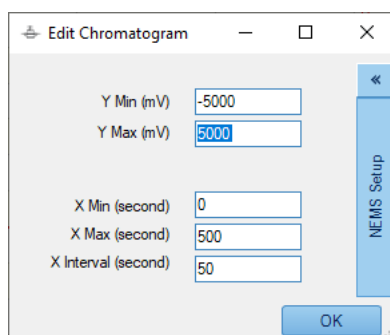

Figure 4-23: Edit Chromatogram Dialog Box
- **Edit Chromatogram** – presents a dialog box to set the x-axis and y-axis minimum and maximum as well as the X axis interval (Figure 4-23).